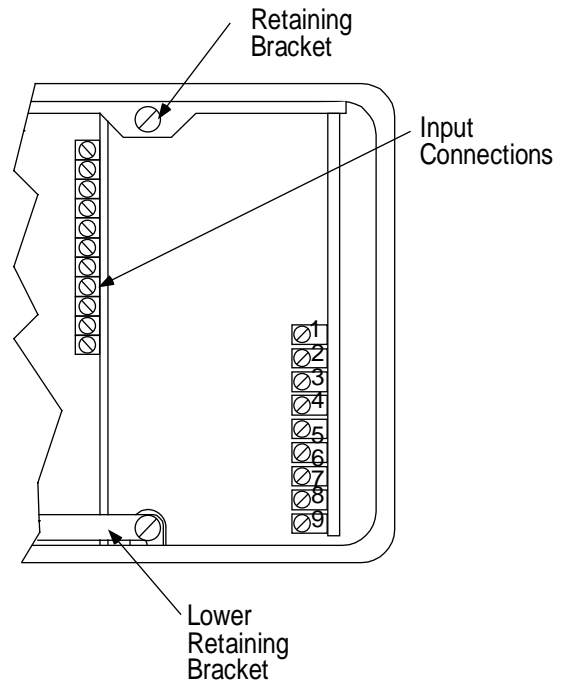

Figure 2
4. Remove upper and lower circuit card retainer brackets (see Figure 2). Remove bezel supports from retainers. Disconnect the display card cable. Set front bezel aside.